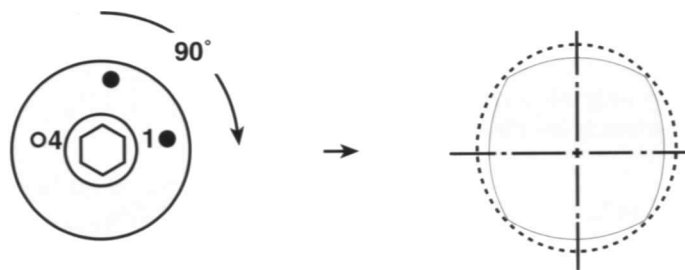

Fig. 5. ○ - vacant Hole ● - screwed Hole
4. Stop the lathe and unscrew the hexagonal socket from the workpiece. Rotate it through  $90^\circ$ , to align with the 'new' pair of holes, return the ball drive to side '1', then secure once again with your woodscrews. (Fig. 5.) Turn the third side.